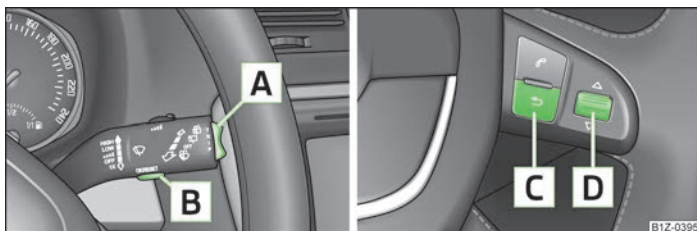

Fig. 6 Multifunction display: Control elements on the windscreen wiper lever/control elements on the multifunction steering wheel
Switching over the memory using the button **B** » Fig. 6 on page 13 on the windscreen wiper lever or using the adjustment wheel **D** on the multifunction steering wheel.
The rocker switch  » Fig. 6 and the button  are located on the windscreen wiper lever. Switching over and resetting is performed with the adjustment wheel  on the multifunction steering wheel.
» Press the button  » Fig. 6 or .
» Briefly press the rocker switch  » Fig. 6 up or down. This opens the individual functions of the multifunction display one after the other.
» Press the button  » Fig. 6.
- » Press and hold the button  » Fig. 6 or  for a short while.
The following readouts of the selected memory will be set to zero with the button  » Fig. 6 or .
If the outside temperature drops below +4 °C, a snow flake symbol (warning signal for ice on the road) appears before the temperature indicator and an audible signal will sound. After pressing the rocker switch  » Fig. 6 on page 13 or , the function shown last is indicated.
The driving time which has elapsed since the memory was last erased, appears in the display. If you wish to measure the driving time from a particular time, you need to set the memory to zero at this point in time by pressing the button  » Fig. 6 on page 13 or  for more than 1 second.
If you wish to determine the average fuel consumption over a certain period of time, you must set the memory at the start of the new measurement to zero using the button **[B]** » Fig. 6 on page 13. After erasing the memory, no value appears in the display until you have driven 300 m.
If you wish to measure the distance travelled from a particular point in time, you need to set the memory to zero at this point in time by pressing the button **[B]** » Fig. 6 on page 13 or **[D]**.
The average speed since the memory was last erased is shown in the display in km/hour » page 12. If you wish to determine the average speed over a certain period of time, you need to set the memory to zero at the start of the measurement using the button **[B]** » Fig. 6 on page 13 or **[D]**.
- » With the button **[A]** » Fig. 6 on page 13 or, if applicable, the adjustment wheel **[D]**, select the menu item **Warning against excessive speeds**.
- With the button **A** » Fig. 6 on page 13 or, if applicable, the adjustment wheel **D**, select the menu item **Warning against excessive speeds**.